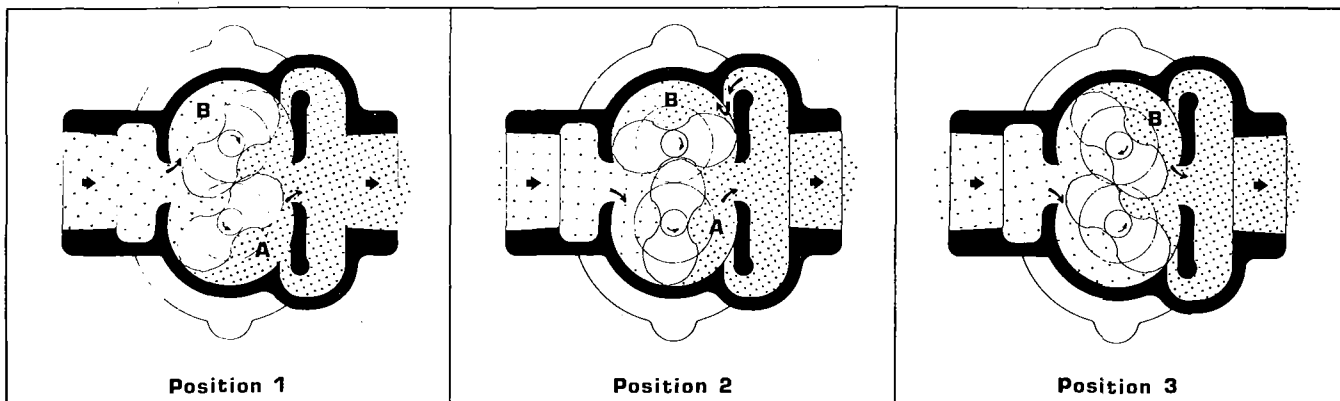
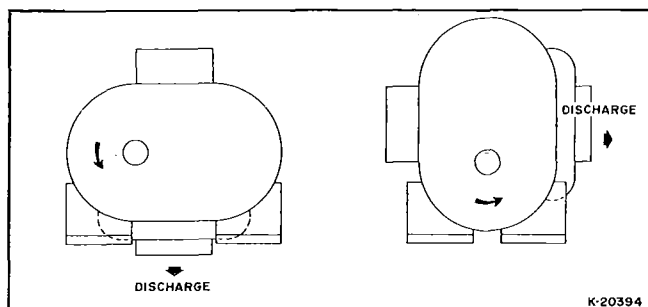

Figure 1. Air Flow Through A Whispair Blower
Figure 2. Rotation and Discharge For Standard Blower
The proprietary Whispair blower design provides a chamber on the discharge side of the cylinder. From this chamber two or more slots open back into the two alternately closed pocket areas of the cylinder, shown as A and B in Figure 1. These slots, at certain impeller positions, allow discharge pressure to bleed into the normally low pressure pockets. They also provide a jet action on the impellers in the direction of rotation. Gradual pressure build-up in the pockets, to a level almost equal to the discharge pressure, reduces backflow rate at the instant of pocket discharge so that pulsing and shock noise are minimized. This permits operation at higher speeds with conservative noise levels, and in most cases enables use of a smaller unit to produce required capacity.
In Figure 1, flow is left to right from blower inlet to discharge. The lower impeller is mounted on the driving shaft, and rotates *counterclockwise*. As shown in **Position 1**, it is delivering a measured volume (A) into the discharge pressure chamber. At the same time, space (B) between the upper impeller and cylinder wall is filling with another and equal volume at atmospheric or inlet pressure. It is about to be sealed off by the *clockwise* rotation of this impeller, for delivery to the discharge.
Whispair blowers normally have a flattened bulge on one side of the cylinder with a pipe connection extending from it, as shown in Figure 1. These units **must** be driven with the correct rotation to make this connection the discharge. Figure 2 shows the standard drive shaft locations as viewed from the drive end, and the correct *counterclockwise* direction of rotation. For special construction (drive shaft at the top or right), correct rotations would be opposite or clockwise. An arrow near the shaft indicates the rotation to be used. Some few blowers (1701, 1702, 1704, 1707) do not have cylinder bulge. These may be operated in either direction, as necessary to produce discharge at the more convenient connection.